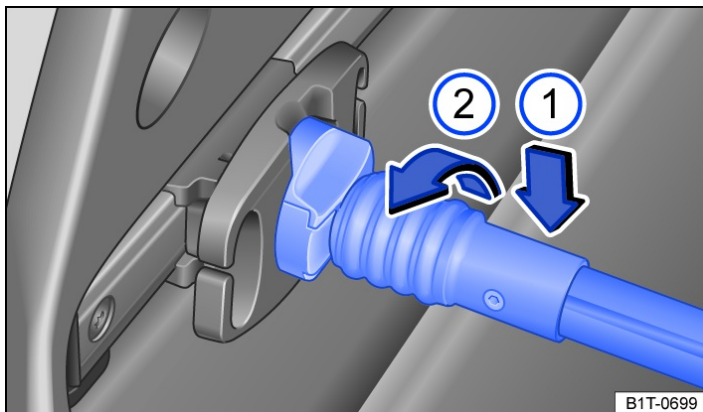

Fig. 1 In the luggage compartment: attaching the cover.
- ① Insert the support rod.
- ② Rotate the support rod.
1. Place the support rod in the cover mount from above → *fig. 1* ① and rotate by 90 degrees in the direction of the arrow ②.